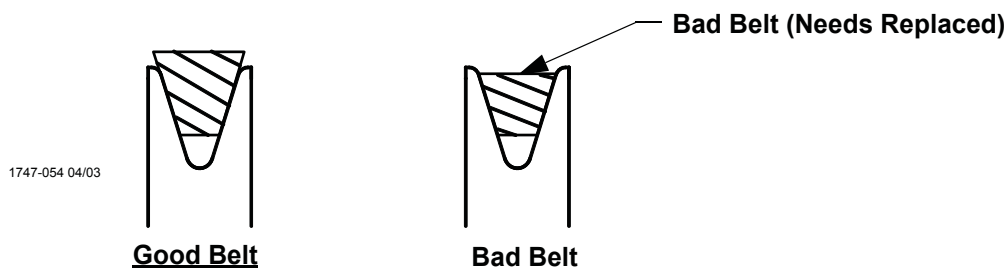

Figure 28. Belt Condition
- Periodically check the V-Belt and replace if necessary. A worn Belt will cause a substantial drop in Fan performance or it can break and cause Fan failure. If a Belt rides below the Sheave edge, replace the belt. (See Figure 28 below)